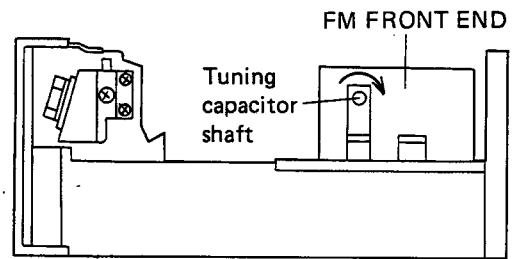

Fig. 31 Side view
4. Turn the tuning capacitor shaft fully clockwise. (Fig. 31).